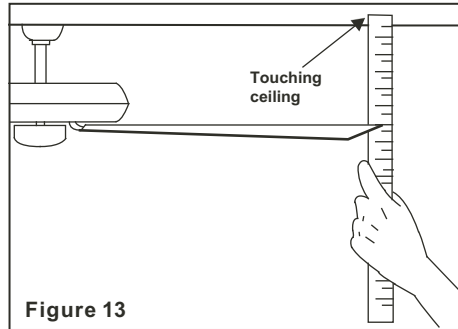

Figure 13
2. Most fan wobbling problems are caused when blade levels are unequal. Check this level by selecting a point on the ceiling above the tip of one of the blades. Measure this distance as shown in Figure 13. Rotate the fan until the next blade is positioned for measurement. Repeat for each blade. The distance deviation should be equal within 1/8".